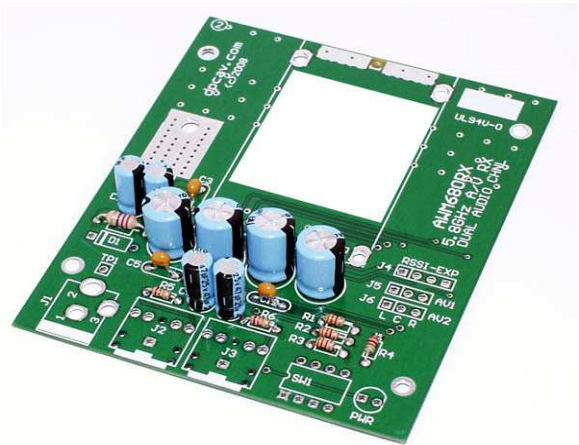

Figure 2
- 1 CAPACITORS, RESISTORS, AND INDUCTORS:** See Figure 2.